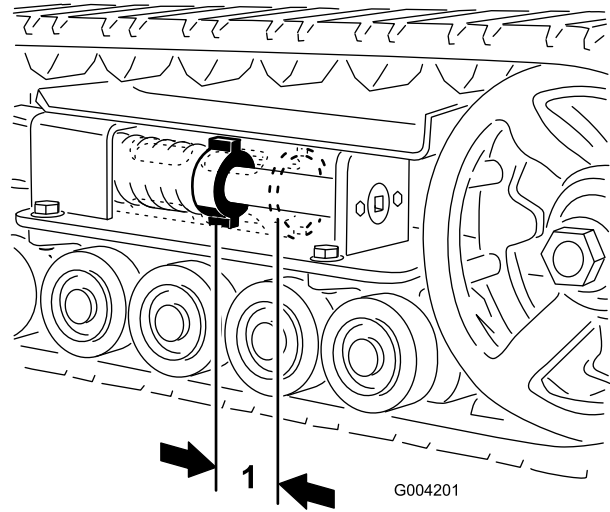
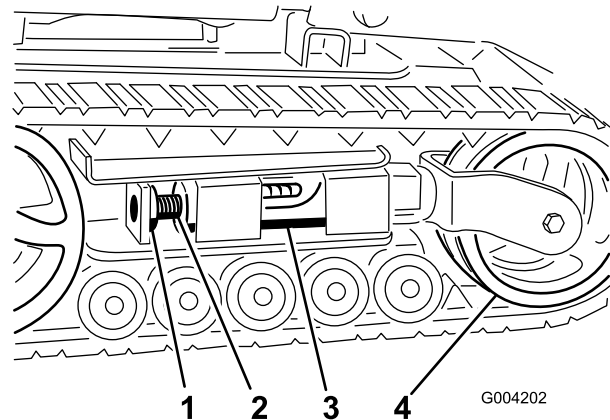
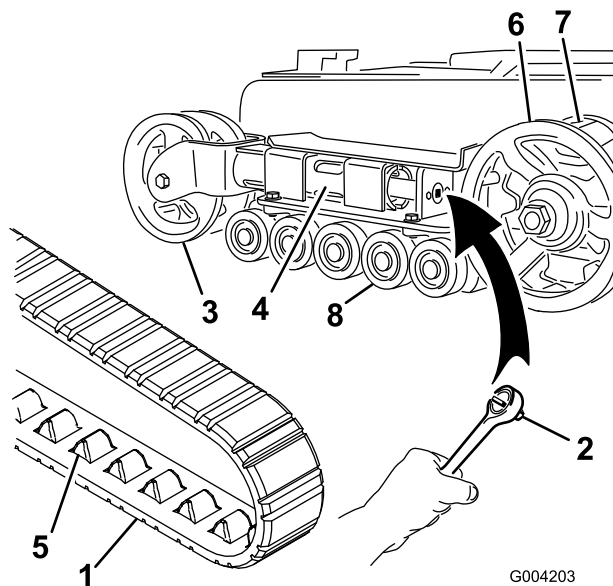
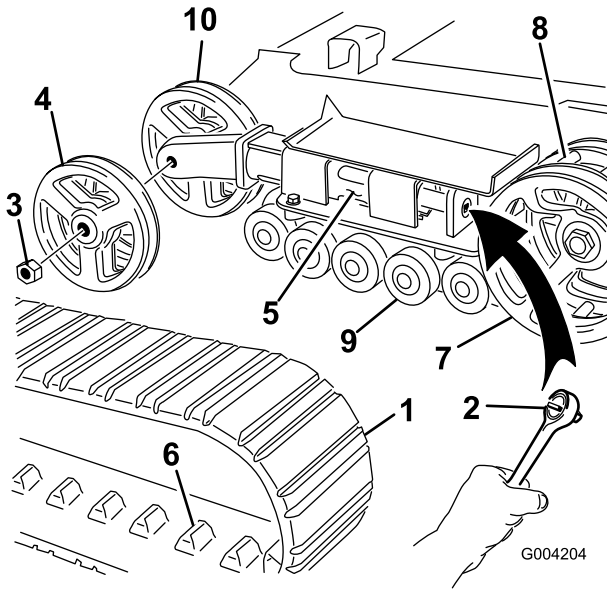

Figure 44
Figure 45
Figure 46
Figure 47
Check and adjust the track tension after the first 50 operating hours and every 100 operating hours thereafter. There should be 2-3/4 inches (7 cm) between the tension nut and the back of the tension tube (Figure 44). If not, adjust the track tension using the following procedure:
3. Remove the locking bolt and nut (Figure 45).
4. Using a 1/2 inch drive socket (Figure 46), turn the tensioning screw counter-clockwise until the distance between the tension nut and the back of the tension tube (Figure 44) is 2-3/4 inches (7 cm).
5. Align the closest notch in the tension screw to the locking bolt hole and secure the screw with the locking bolt and nut (Figure 45).
4. Using a 1/2 inch drive socket, release the drive tension by turning the tensioning screw clockwise (Figure 45 and Figure 46).
5. Push the tension wheel toward the rear of the unit to move the fork tube against the frame (Figure 46). (If it does not touch the frame, continue turning the tensioning screw until it does.)
7. When the track is off of the tension wheel, remove it from the drive sprocket and road wheels (Figure 46).
8. Beginning at the drive sprocket, coil the new track around the sprocket, ensuring that the lugs on the track fit between the spacers on the sprocket (Figure 46).
9. Push the track under and between the road wheels (Figure 46).
11. Turn the tensioning screw counter-clockwise until the distance between the tension nut and the back of the fork tube (Figure 44) is 2-3/4 inches (7 cm).
4. Using a 1/2 inch drive socket, release the drive tension by turning the tensioning screw clockwise (Figure 45 and Figure 47).
5. Push the tension wheel toward the rear of the unit to move the tension tube against the frame (Figure 47). (If it does not touch the frame, continue turning the tensioning screw until it does.)
6. Remove the nut securing the outer tension wheel and remove the wheel (Figure 47).
7. Remove the track (Figure 47).
8. Remove the nut securing the inner tension wheel and remove the wheel (Figure 47).
12. Install the inner tension wheel and secure it with the nut removed previously (Figure 47).
14. Install the new track, ensuring that the lugs in the track fit between the spacers in the middle of the drive sprocket (Figure 47).
15. Install the outer tension wheel and secure it with the nut removed previously (Figure 47).
17. Turn the tensioning screw counter-clockwise until the distance between the tension nut and the back of the tension tube (Figure 44) is 2-3/4 inches (7 cm).